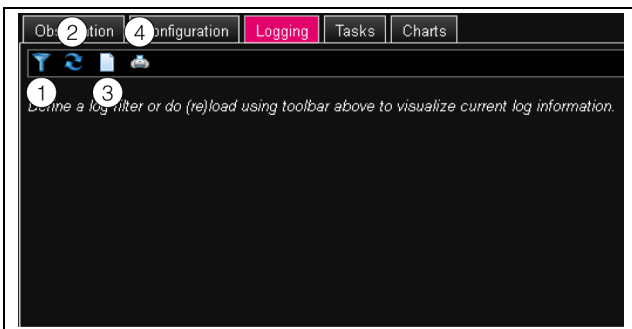

Fig. 46: Logging tab
- Click the first symbol on the left (fig. 46, item 1).
- Click the second symbol on the left (fig. 46, item 2). It takes a moment until all events have been reloaded from the CMC III PU. The refreshed list with all events is then displayed.
- Click the fourth icon from the left (fig. 46, item 4). It takes a moment until all events have been reloaded from the CMC III PU. The updated list with all events is displayed in a separate window and a "print" dialogue opens.
- Click the third symbol on the left (fig. 46, item 3).